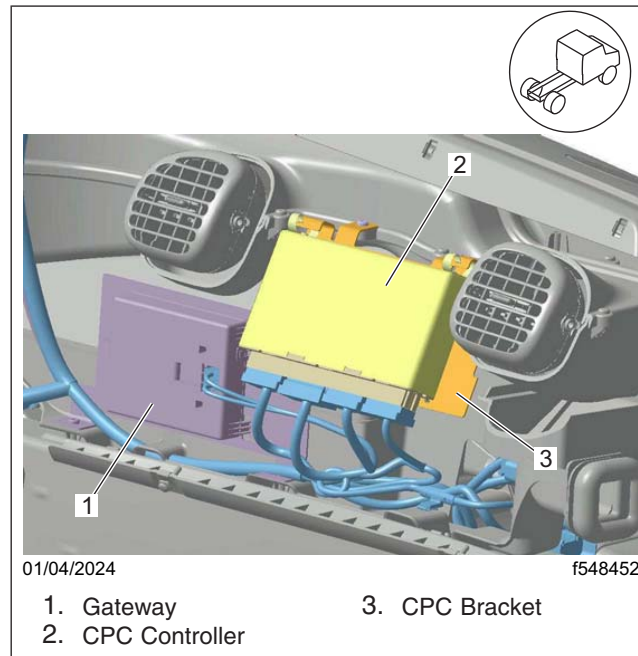

Fig. 5, CPC Module and Bracket
3. Remove the common powertrain controller (CPC) from the CPC bracket and put it aside. See Fig. 5.